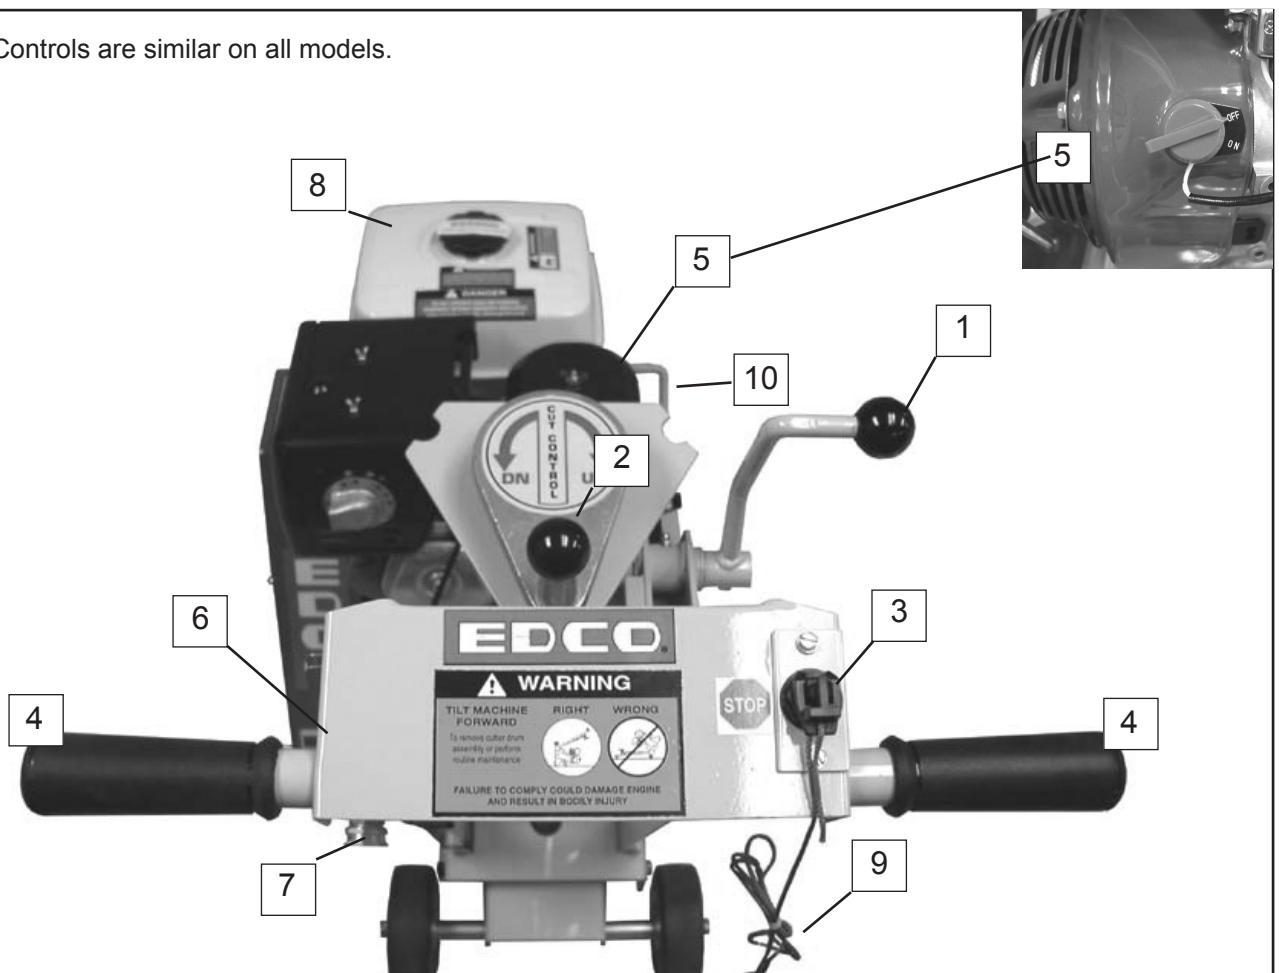
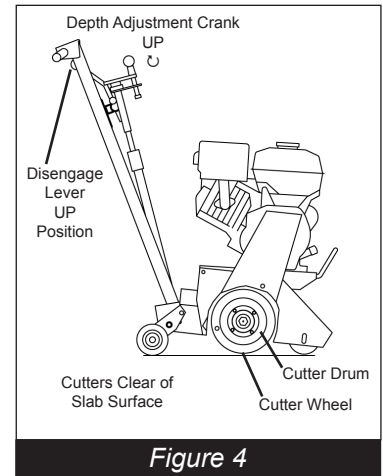

Figure 2
Figure 4
- Slowly lower the cutter head to the slab surface with the cutter head lever. (Figure 2, Item 1) & (Figure 4)